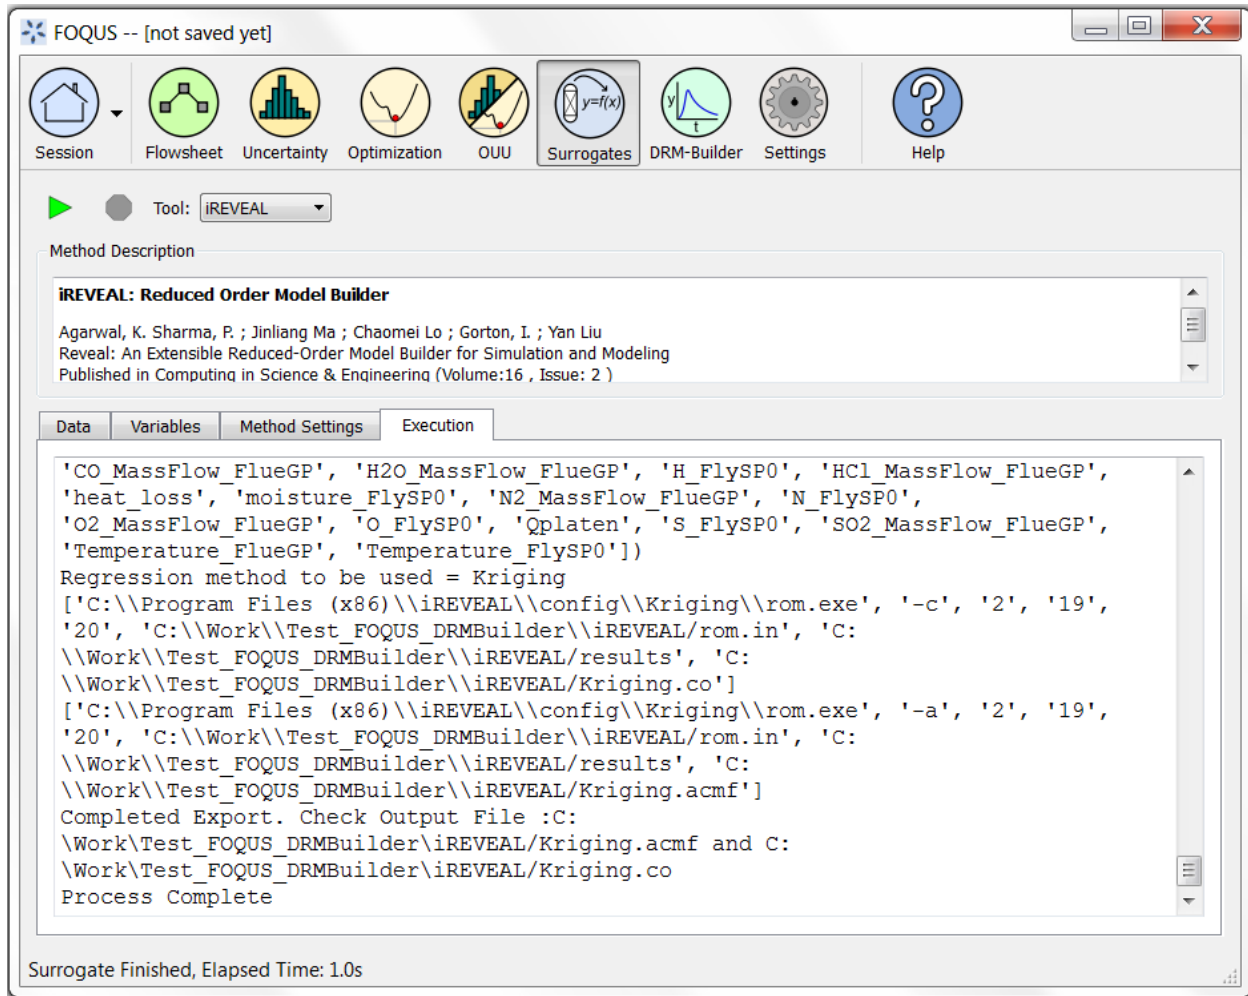

Figure 9: Monitoring Execution Process during ROM Generation
2. Click the “green triangle”. This generates and exports the ROM in the *\$work_dir* directory. The user can view the progress of the execution under the “Execution” tab as shown in Figure 9.